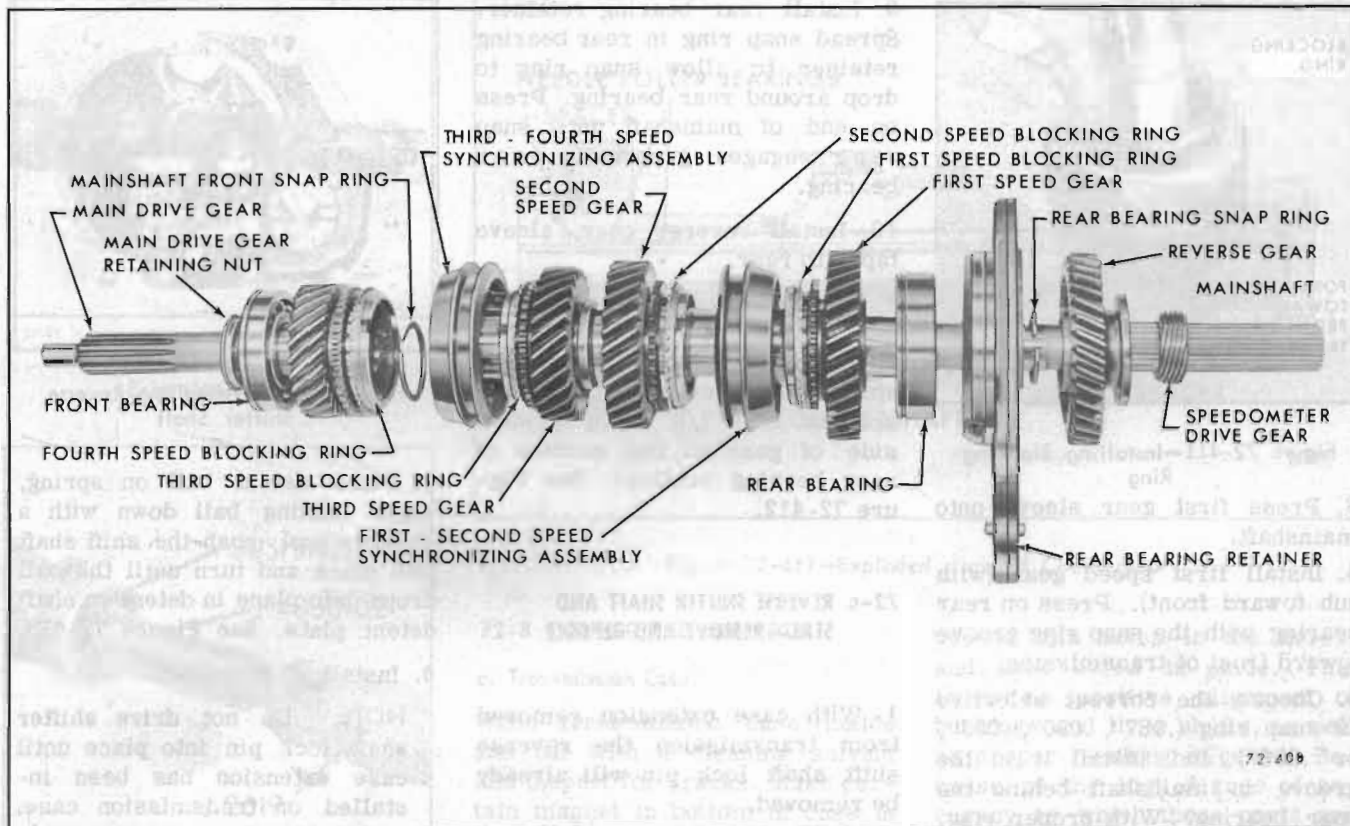

Figure 72-408—Exploded View Mainshaft Assembly
- c. Place three (3) keys and two springs in position (one on each side of hub) so all three (3) keys are engaged by both springs. Synchronizer springs should be installed so tapered end of each spring falls into the same key in the hub. Slide the sleeve onto the hub aligning the marks made at disassembly.
c. Assembly—Refer to Figure 72-408